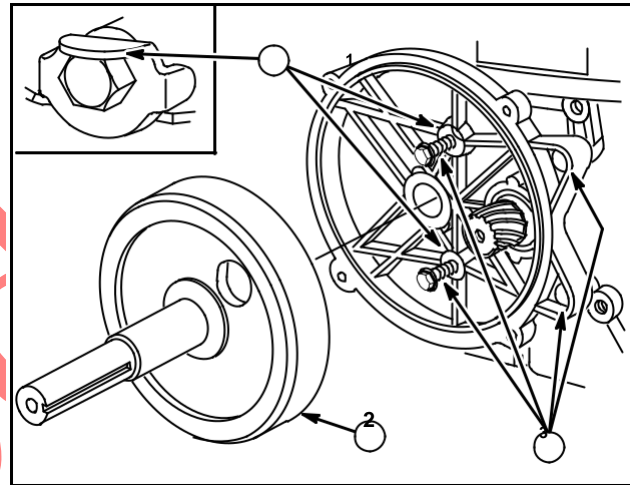
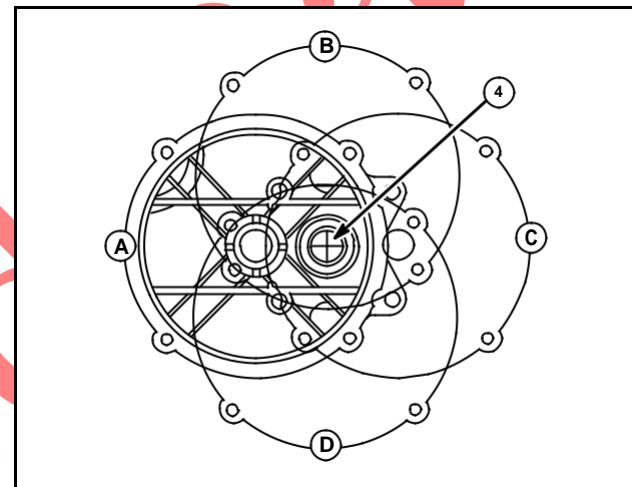
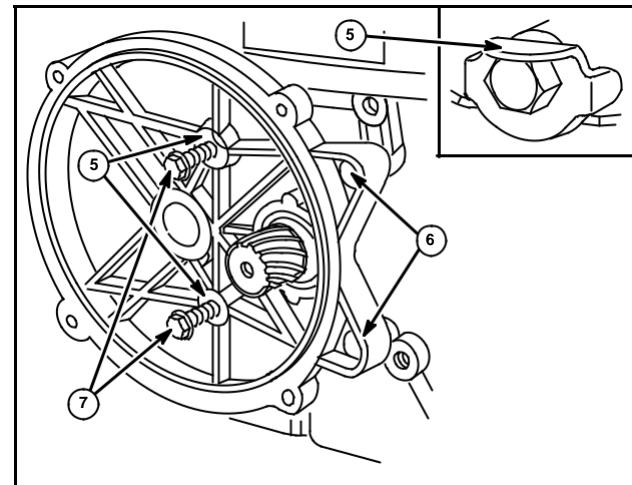

Fig. 34 – Removing Gear Case
Fig. 36
Fig. 37
1. Note position of gear case assembly, Fig. 36.
2. Remove drive shaft assembly (2) from gear case.
3. Bend down two screw locks (1, if equipped). Remove four cap screws (3).
4. Slide gear case off engine, Fig. 34.
NOTE: Standard bearing housing position is 9 O'Clock (A), in relation to the engine crankshaft (4). Optional positions are 12 O'Clock (B), 3 O'Clock (C) and 6 O'Clock (D), Fig. 36.
3. Install two short screws (6) and lock washers.
4. Install two long screws (7) and screw locks (5, if used) with lock tabs flat.
6. Bend lock tabs up against flats on head of cap screws, Fig. 37.
11. Remove seal protector (9).
Note position of gear reduction case on engine, Fig. 36.